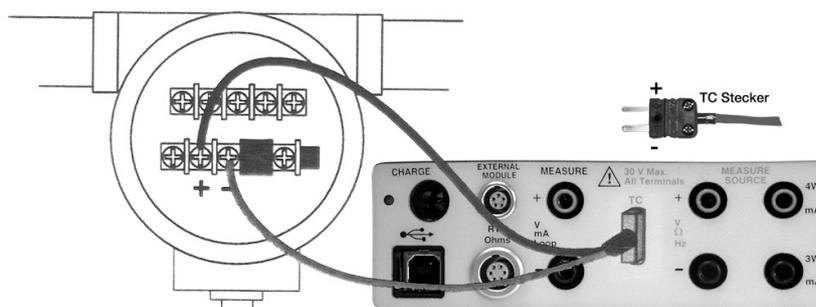

Figure 13: Connections for Outputting Thermocouples
- Insert the plug into the thermocouple-socket on the calibrator (shown in Figure 13).